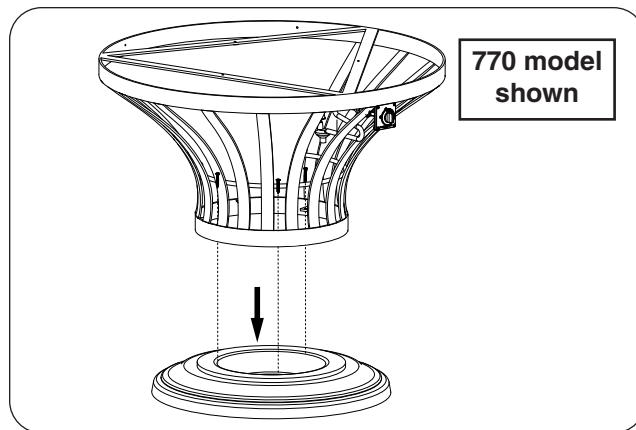

Fig. 34-1 Place base and fasten
1. **CAREFULLY** place the base bottom and base in an appropriate location (see Fig. 34-1, and refer back to the LOCATION section if needed).
2. Use a Phillips screwdriver and the supplied concrete screws (3) to fasten the base bottom to the base as shown in Fig. 34-1.